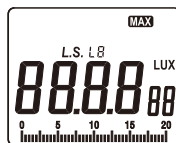

Figure 3-1-3
- Press the “MAX/MIN/LS” key and “MAX” will appear on top LCD display (as shown in figure 3-1-3);